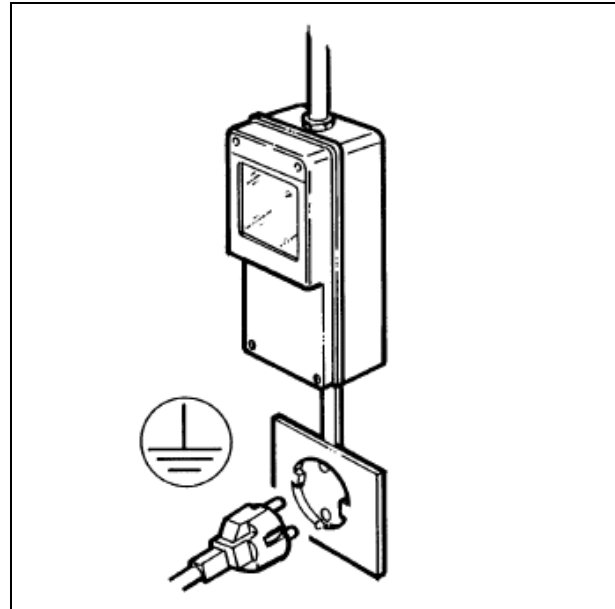

Fig. 1
- The machine's electrical safety is only guaranteed when it is connected to a suitable earth system, structured as provided by the national safety current regulations (fig.1). Therefore, the manufacturer cannot be held responsible for any damage due to failure of the grounding system of the machine.